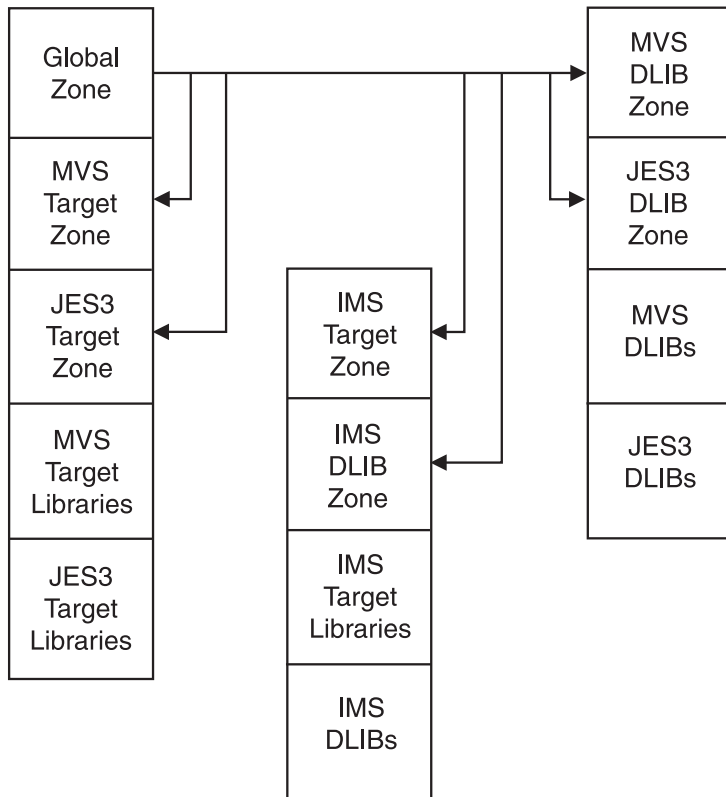

Figure 28. Using a master CSI and a separate CSI for each zone
*Example 4: Using a master CSI and a separate CSI for each zone:* In Figure 28 on page 57, one global zone is defined for the entire system in a master CSI, and separate CSIs are allocated for the JES3 and IMS subsystems on the packs where the subsystem libraries reside. Unlike Example 3, each zone is in its own separate CSI. This CSI structure provides the advantages of a common control point (as in Example 2) and keeps the SMP/E control information physically associated with the libraries it describes. This is useful when you dump packs for backup.